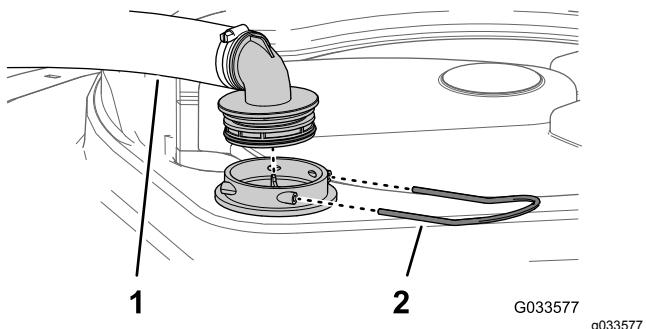

Figure 51
2. At the top of the sprayer tank, remove the retainer that secures the hose fitting attached to the large hose from the filter housing (Figure 51).
3. Remove the hose and hose fitting from the filter housing (Figure 51).